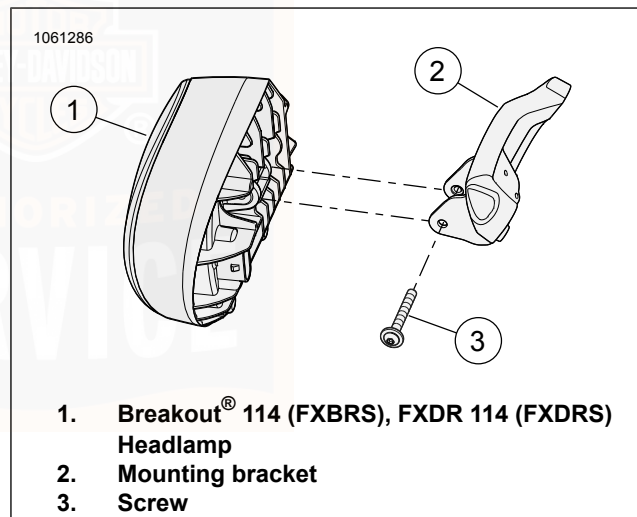
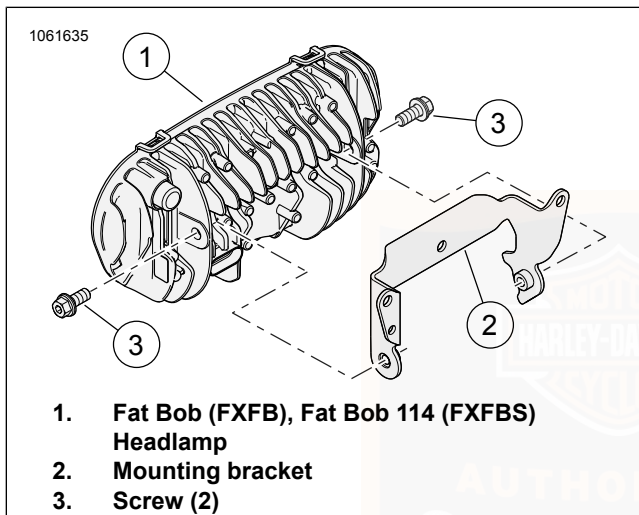

Figure 82. Headlamp Adjustment
Figure 83. Headlamp Adjustment
2. See Figure 82 and Figure 83. Loosen vertical adjustment screw (3). Adjust headlamp vertically until beam centers on horizontal line.
3. Tighten vertical adjustment screw (3):